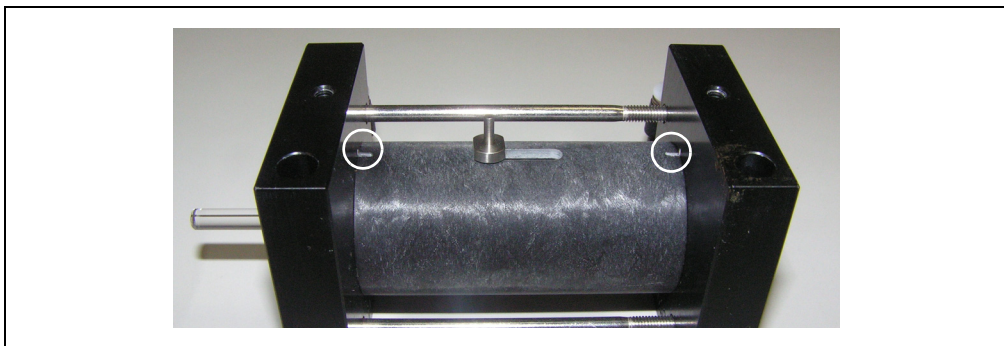

Figure 5-17. Alignment Marks on Pump Cylinder and End Plates
9. Place the assembled pump on a flat surface. Make sure all four alignment marks on the pump cylinder and end plates are aligned (see Figure 5-17). Press down on the end plates to square them with each other. The pump should sit evenly on the flat surface without rocking.